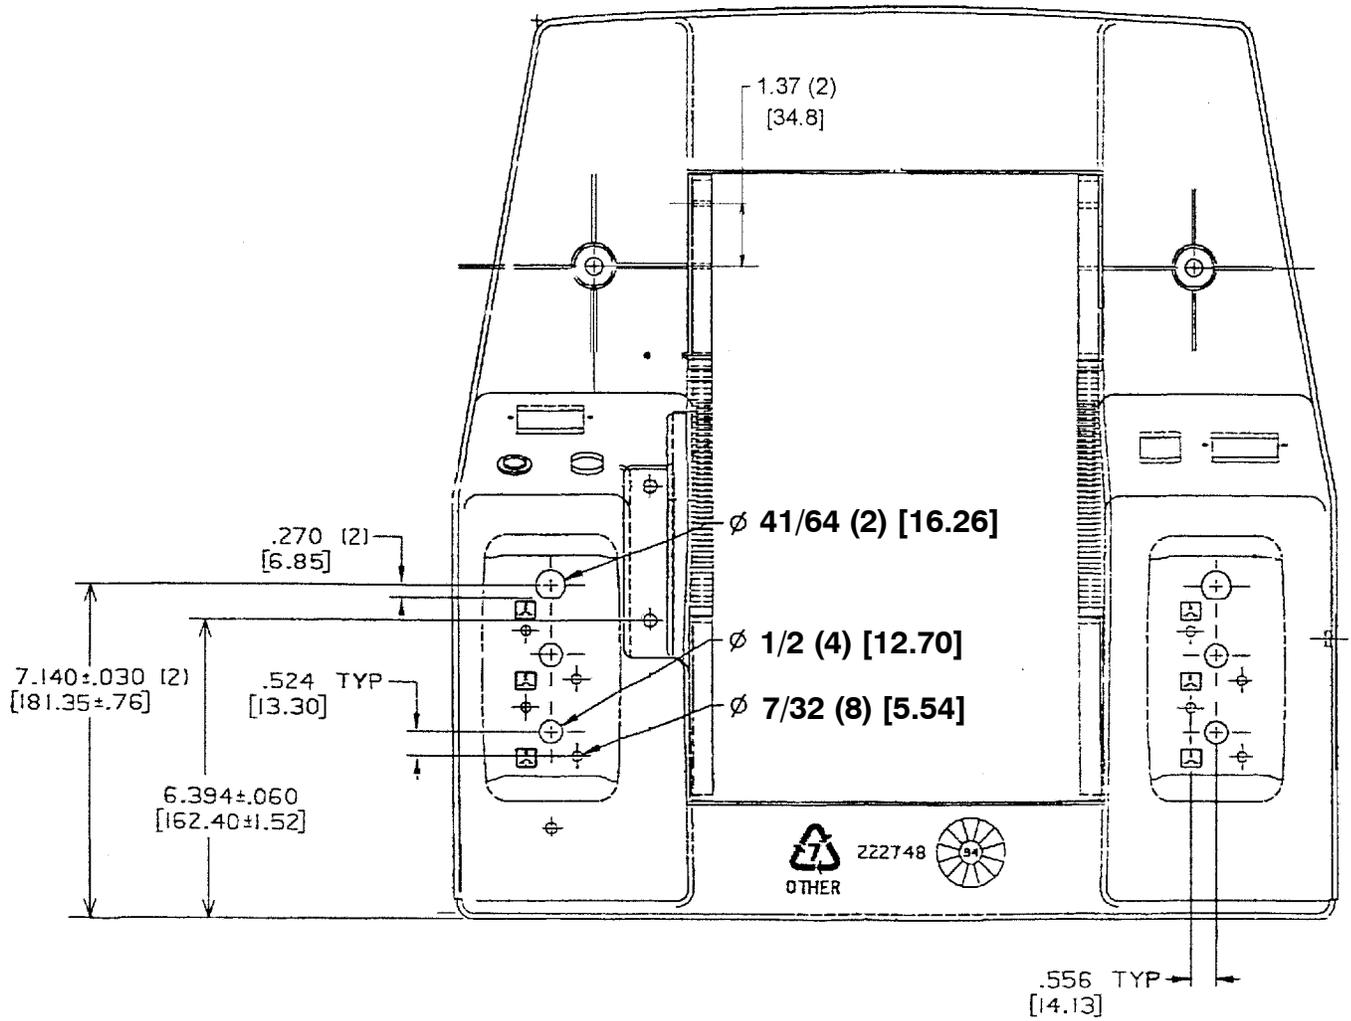

FIG. 2 - REWORKED SHROUD HOLE LOCATIONS
NEW SHROUD INSTALLATION: **(Refer to Figure 2)**
1. If installing the new shroud on a machine with older circuit breakers, new circuit breaker mounting holes will need to be drilled. (Refer to Figure 2)
2. Using the hole locations shown in figure 2, drill four 7/32 holes, two 1/2 in holes, and one 41/64 hole on each side of the shroud, for mounting the old circuit breakers. (Refer to Figure 2)